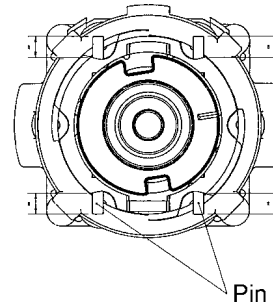

Fig. 13
3. Insert 2 pins and set each length on top and bottom should be same. (See Fig. 13)